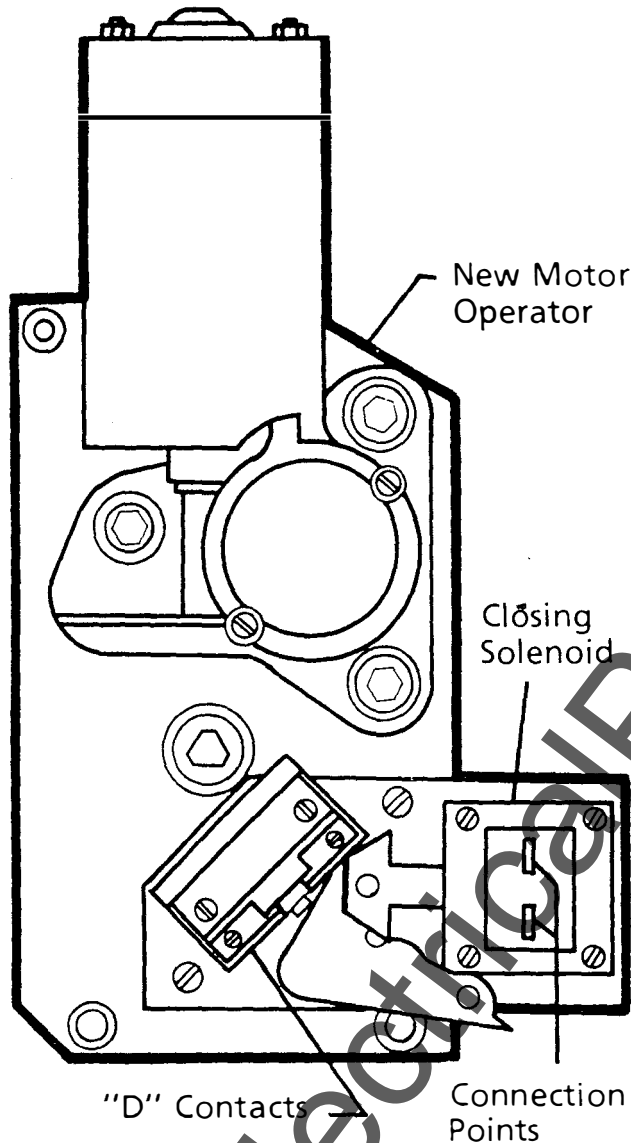

Fig. 16 — Location of the closing solenoid and closing solenoid contacts
3. The closing solenoid, which is mounted on the new motor operator, has 2 terminals that are electrically isolated from its coil. These terminals are used as connection points for the closing solenoid leads, the F switch lead and the motor lead. Refer to Fig. 16.